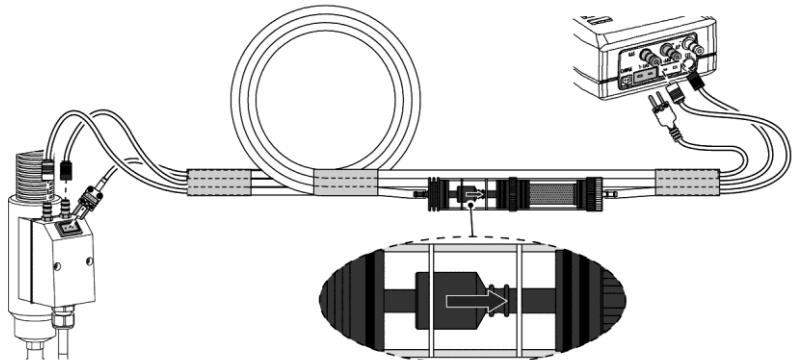

Fig. 6: Connection MULTILYZER NG/STe
- ▶ Connect MULTILYZER NG/STe via the connection kit ASS-STM the sampling line as shown in fig. 6. Note the direction of flow of the gas.